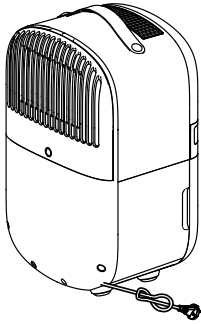
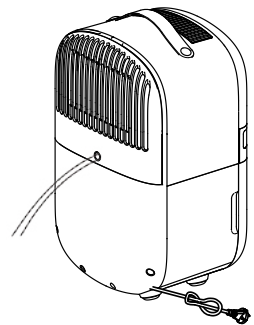

Fig. 4
Fig. 6
2. Unplug the power cord. Ensure a good access to the back panel (Fig. 4).
3. Break out the drain hole plug in the filter cover (6), remove the cover and remove the rubber plug from the drain hole.
4. Pull the drain tube (12) through the hole in the cover and push it into the drain slot under the cover (Fig.6).
5. Place the filter cover (6) on the device.